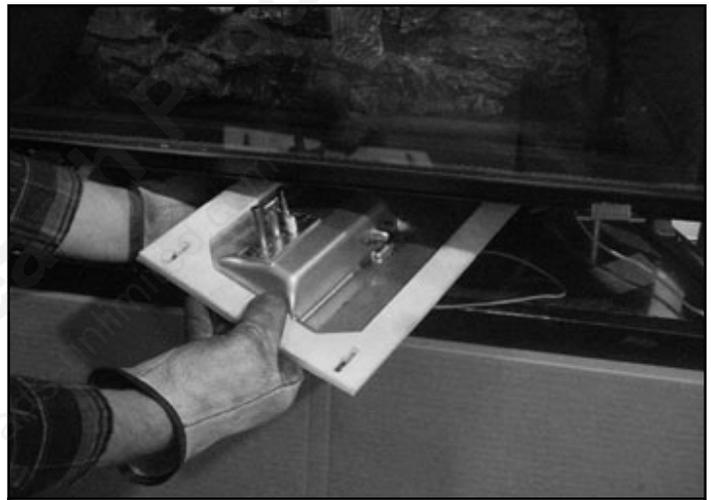

Figure 12.11 Valve Assembly
- Your air shutter is provided at 1/8 in. open for natural gas, 3/8 in. open for propane (30 in./33 in. appliances), and full open for 36 in. and 42 in. propane appliances. In the event soot is accumulating in your appliance, the air shutter should be opened farther. This can be done by opening the control access panel and locating the two wing studs and two wing nuts attaching the valve assembly to the firebox. Remove the wing nuts and wing studs, slide the valve assembly to the left and lower. Rotate the valve assembly horizontally and remove from underneath the appliance. See Figure 12.11.